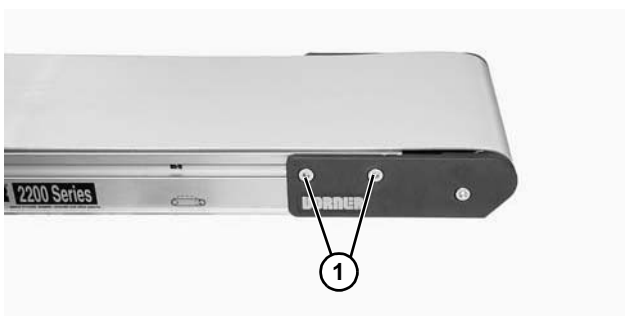

Figure 44
1. On one side of the conveyor, loosen two (2) head plate fastening screws (**Figure 44, item 1**) and remove them.